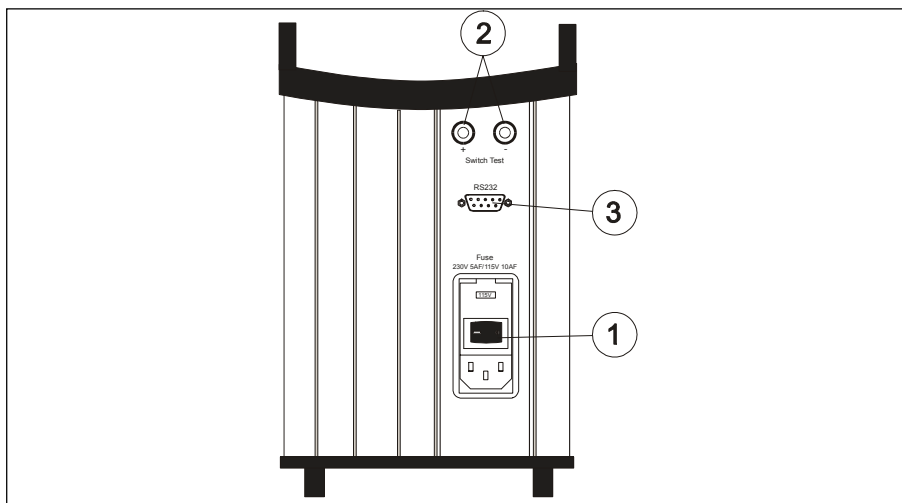

Fig. 6
Switch the calibrator on using the power control switch (pos. 1 in Fig. 6).